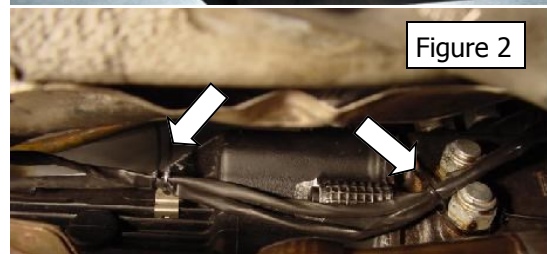

Figure 2
2. We have relocated the second set of oxygen sensors behind the primary cats, instead of in front of them as from the factory. There is enough extra wire for these sensors to allow you to relocate them further back without stretching the wires. Cut the zip ties that hold the wires to the top of the transmission to free this extra length. After final installation, fasten the wires to the transmission with the included zip ties as in Figure 2. **Pay close attention to the oxygen sensor wiring to make sure that it is not interfering with any hot or moving object, such as the center drive axle. Rotate the cat sections if needed.**